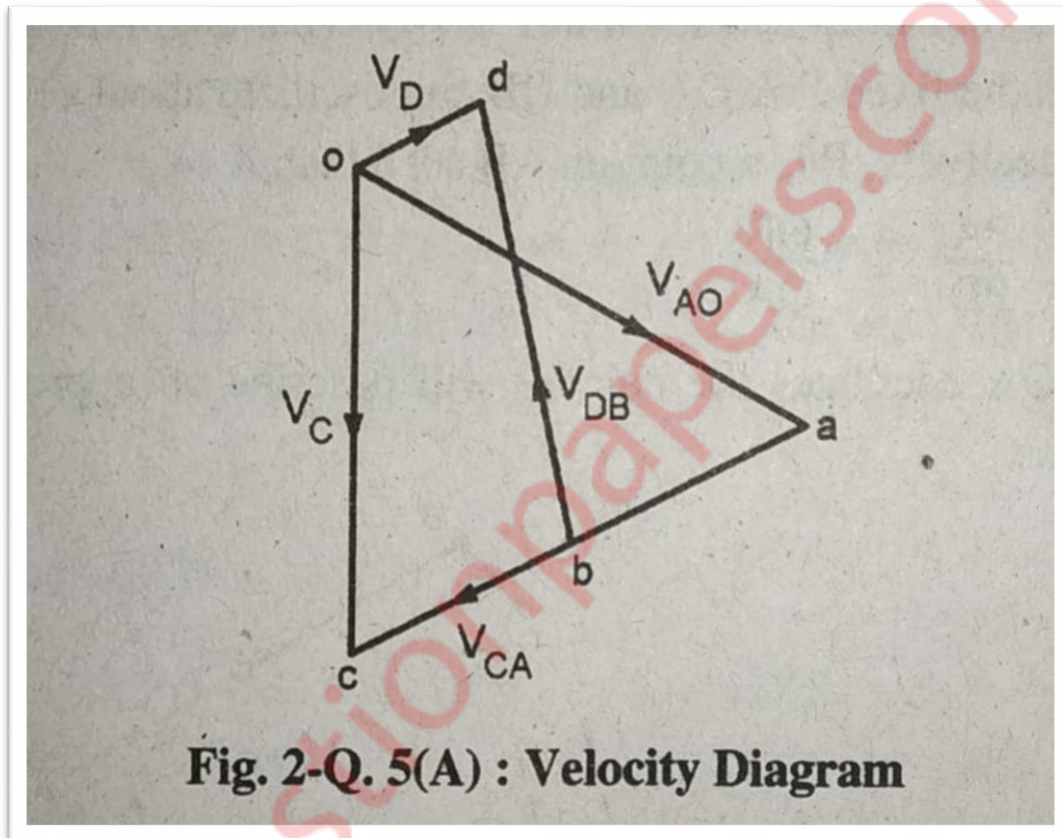

Fig 1
**Q.4(B)** wheel of mass 30 kg is horizontally with a force of 100 N applied through a cord wrapped around in a drum of wheel as shown in figure 1 the wheel has a radius of gyration of 75 mm determine linear acceleration of mass center and angular acceleration of wheel. [10]